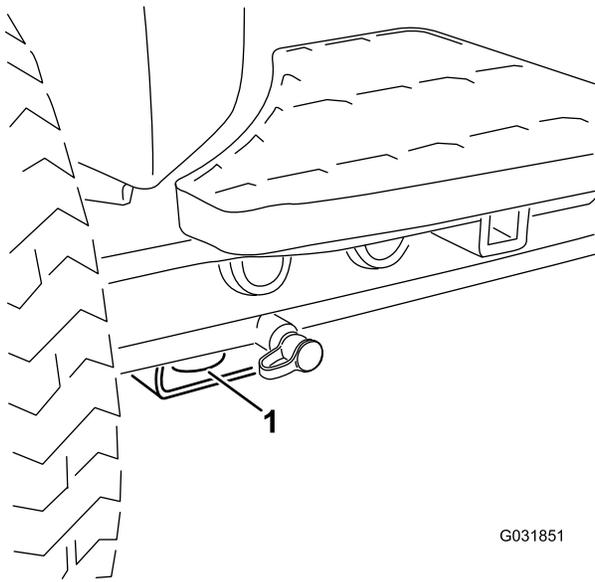

Figure 55
- Front—the hole in the rectangular pad, under the axle tube, inside each front tire (Figure 55)